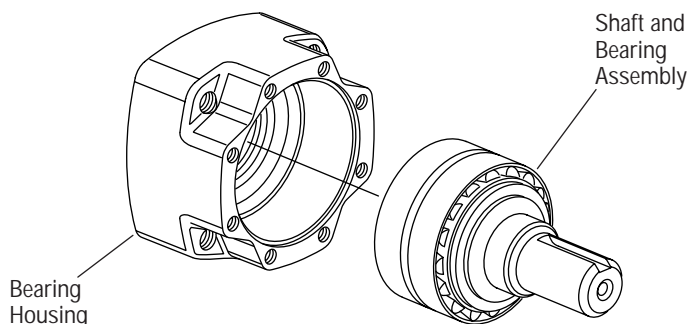

Figure 12
**22** Install shaft and bearing assembly in bearing housing (see Figure 12). Do not damage seal in bore of housing. You may need a press to install shaft and bearing assembly.